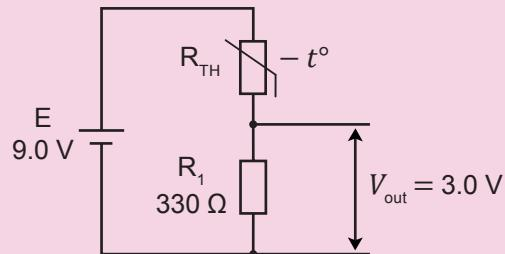

Figure 8.15
2. For the circuit in Figure 8.15, calculate the resistance of the NTC thermistor if the output voltage is 3.0 V.